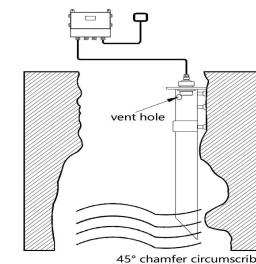

Figure 2
4) If the wall of the pool or tank is uneven, there are other obstacles, the water surface fluctuates violently, or there is foam or other impurities on the water surface, a waveguide tube must be installed for the instrument. Alternatively, a tube can be run to the bottom of the pool or tank, with a diameter of $\geq 110\text{mm}$. A gap should be left at the bottom of the tube to keep the liquid level inside the extension tube equal to that in the pool or tank. Several small holes should be drilled on the extension tube near the probe installation position to allow air inside the tube to communicate with that outside the tube(Figure 2).